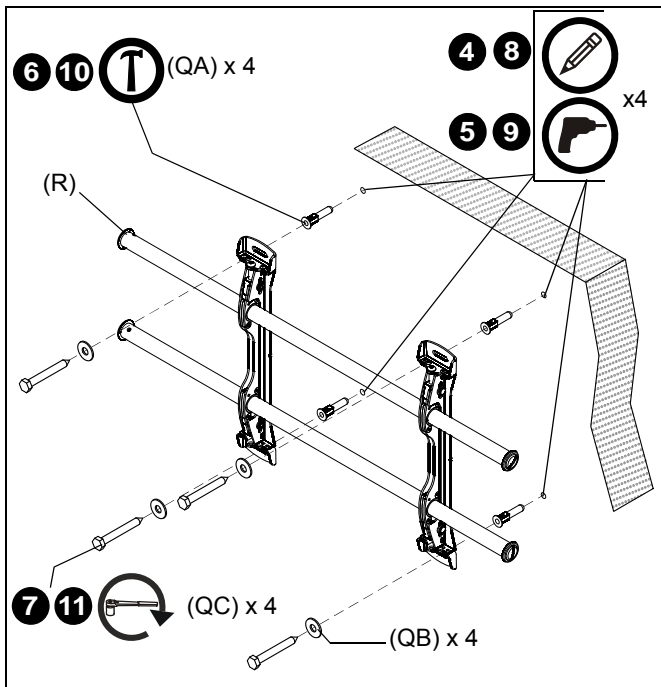

Figure 3
2. Line up the notches on mount (R) with center of screen marking to determine vertical center. (See Figure 3)
3. Measure up 7-1/2" (190.5mm) from the center point to mark location of the upper mounting slots. (See Figure 3)
4. Using a level, mark the wall through both upper mounting slots. (See Figure 3)
6. Install an anchor (QA) into each upper pilot hole using a hammer, making sure that the anchor is flush with the wall.
7. Use two 5/16 x 2-1/2" lag bolts (QC) and two 5/16" flat washers (QB) to attach top of mount (R) to anchors in wall.
8. Mark the attachment points for the lower mounting slots. (See Figure 3)
9. Drill one pilot hole at each marking for lower mounting holes. (See Figure 3)
10. Install an anchor (QA) into each lower pilot hole using a hammer.
11. Use two 5/16 x 2-1/2" lag bolts (QC) and two 5/16" flat washers (QB) to attach the mount to the wall through the lower mounting holes. (See Figure 3)